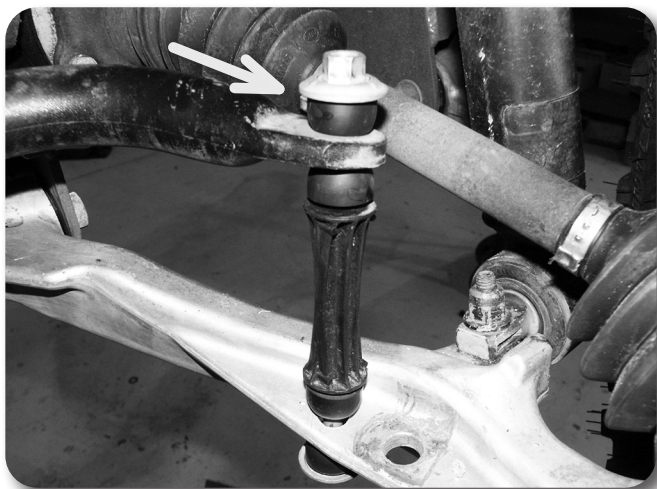

Figure 1
4. Disconnect the sway bar end link from the sway bar **Figure 1**. Retain bushings and hardware.